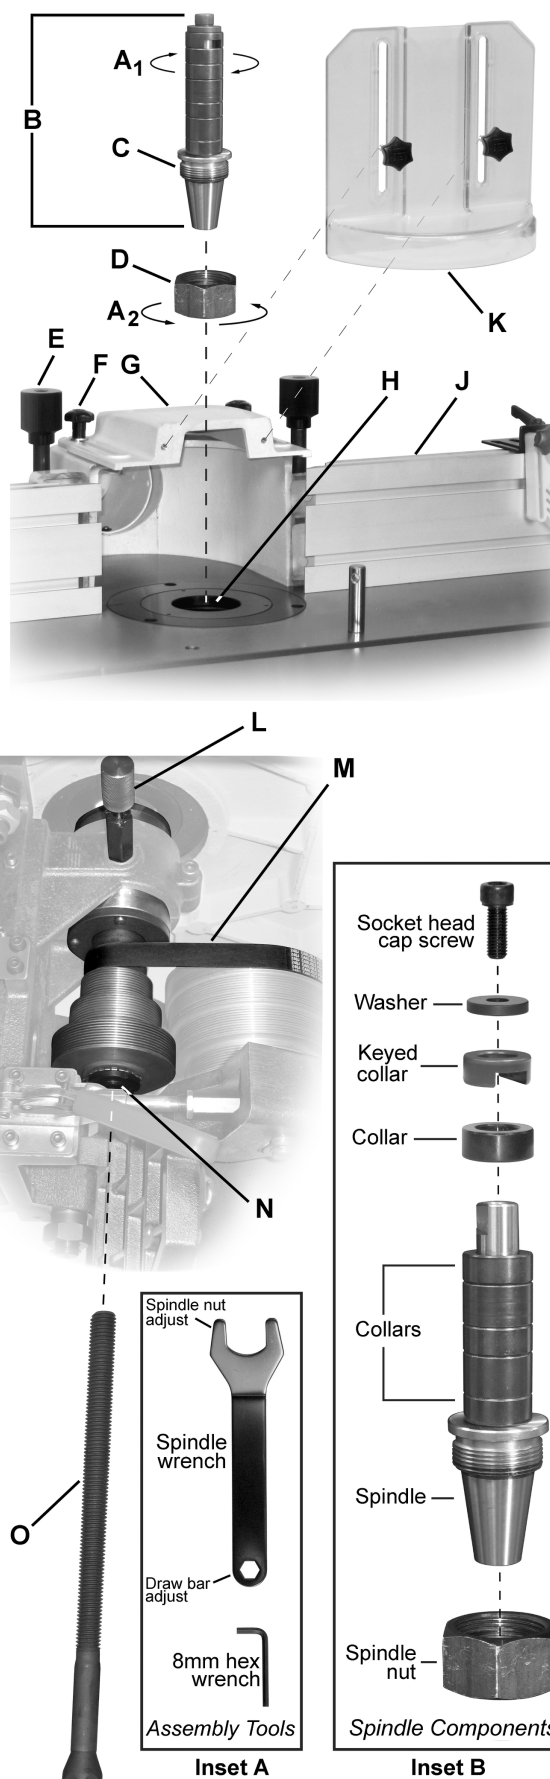

Figure 14
Referring to Figure 14:
1. Locate the *spindle lock* (L, Fig. 14) accessible through the door on the right side of the cabinet. Pull out and rotate 90° right or left, resetting the knob into the indent.
Attempt to turn the *spindle assembly* (B, Fig. 14) by hand to verify that it is locked and will not rotate.
7. Pull out the *spindle lock* (L, Fig. 14) accessible through the door on the right side of the cabinet. Rotate 90° right or left, resetting the knob into the indent.
* Refer to Figure 14